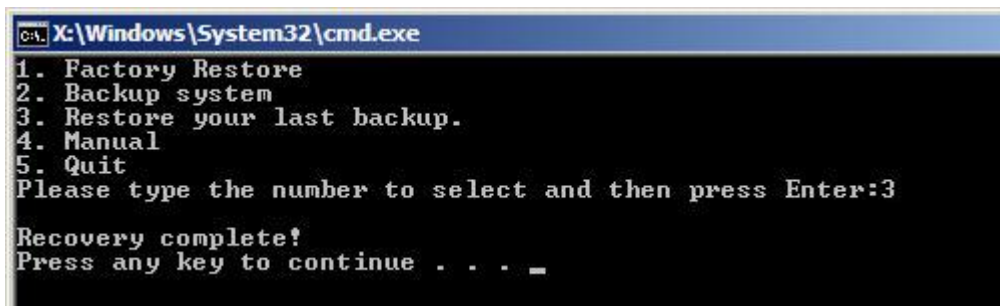

Figure A-32: Restore System Backup Complete Window
Step 3: The screen is shown as in **Figure A-32** when backup recovery is completed.